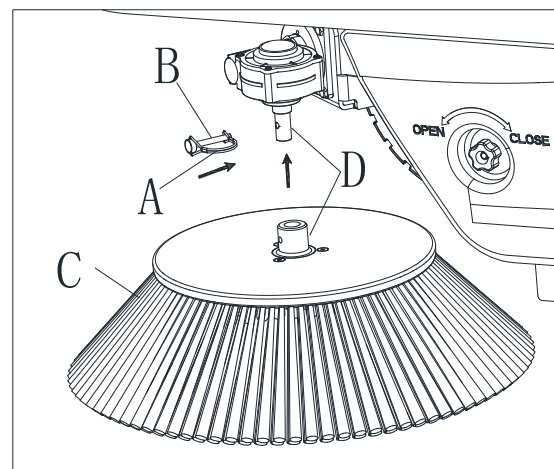

Figure 14
3. Release the spring (A, Figure 14), and remove the pin (B, Figure 14) from the side broom (C, Figure 14) shaft.
4. Install the side broom on the gearmotor shaft, insert the pin in the holes (D, Figure 14) and engage the spring (A, Figure 14).